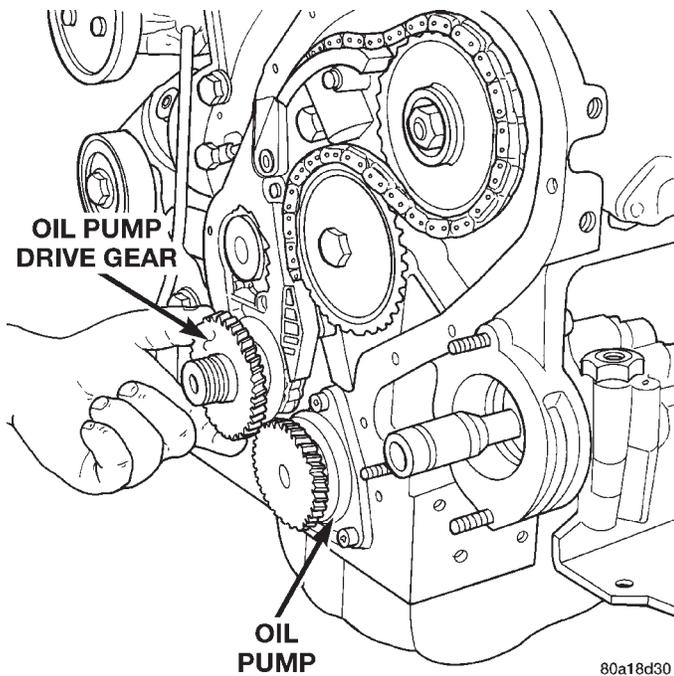

Fig. 60 Oil Pump Drive Gear
(6) Remove front cover. Refer to Timing Chain Cover Removal in this section.
(7) Remove oil pump drive gear at crankshaft (Fig. 60).
(8) Remove oil pump.